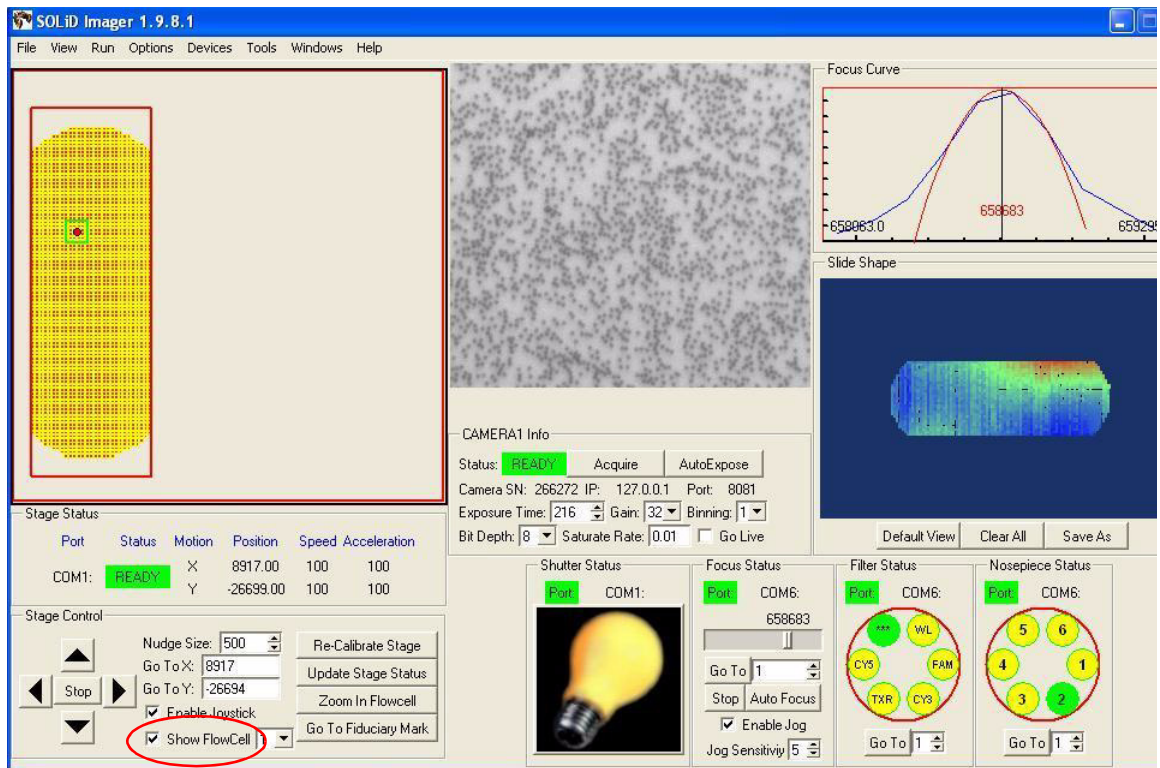

Figure 76 Click **Show Flowcell** to find the beads on the slide.
2. Select the **Show Flowcell** box in the bottom left hand corner of the Imager window, then choose the number of the flowcell to set (Flowcell 1 or Flowcell 2; see Figure 76).